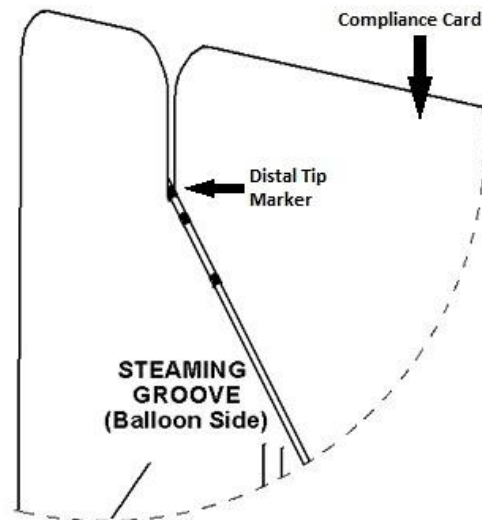

Figure 2 Straight Configuration
5. Place the distal tip marker band with bend at the bottom and inside of the steam groove. (see Figure 2)